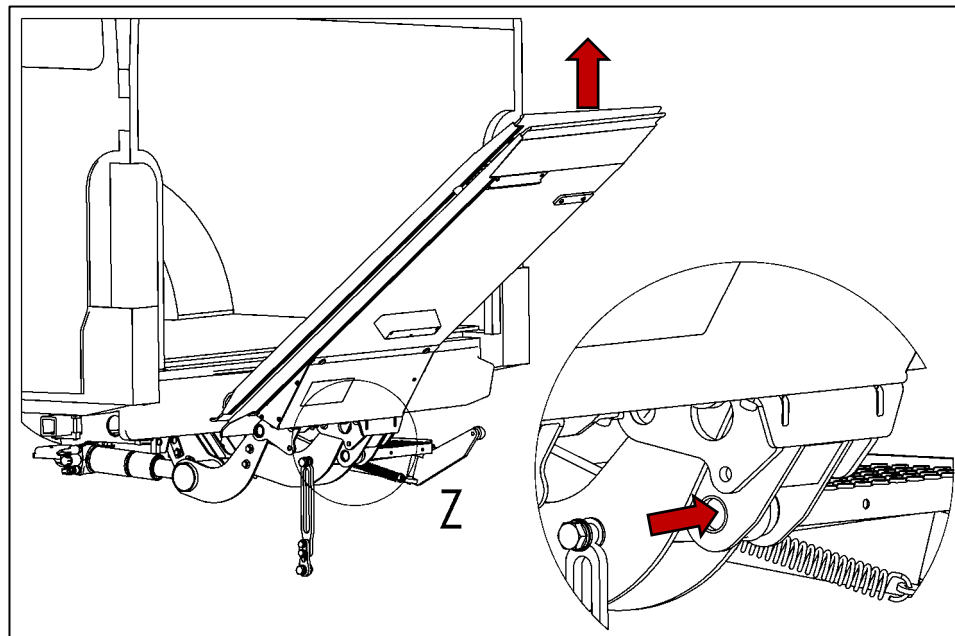

Fig. 56
- Lift the tip of the platform until the closing-rod bearing point (attachment point for the closing rod) is aligned with the swing-arm bearing point (bottom attachment point on the platform) (see Fig. 56).